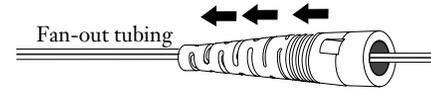

Figure 3-14
**3.5-1** Slide the 900  $\mu\text{m}$  boot (small end first) down the tubing until it is out of the way (Figure 3-14).